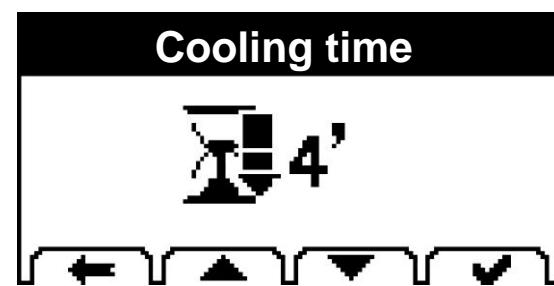

Fig. 5.14
- In **EASY** mode, the system will move on to the cooling stage programming (Fig. 5.14).
- Select the cooling time. Increase or decrease the cooling time with the Δ and ∇ keys (Fig. 5.14)